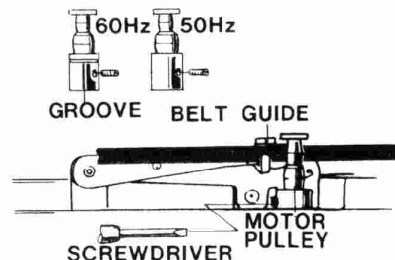

Fig. 3
4. The belt should be positioned in the belt guide and around the center of the upper (smaller) part of the motor pulley. To achieve this, it may be necessary to loosen the pulley once more and adjust its height. See Fig. 3.